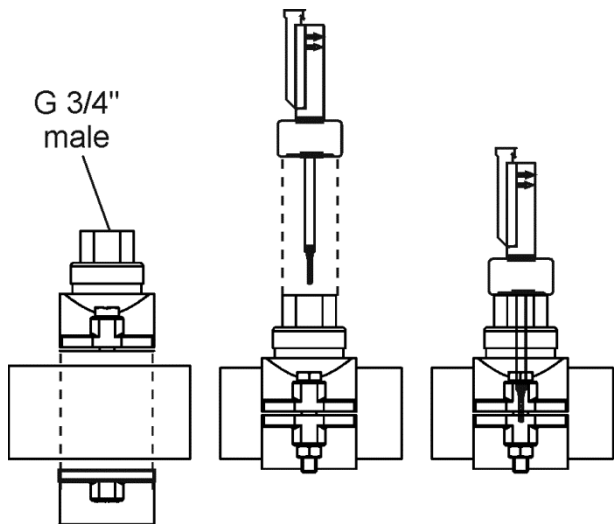

Fig. 7a
1. Vertically install the FS-1 flow detector (flow switch) supplied with the unit using a 3/4" male threaded saddle (Fig. 7a).